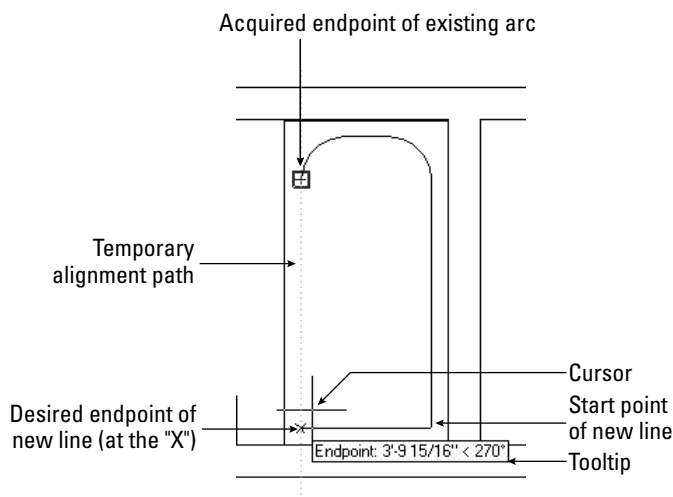

**Figure 4-28:** With the endpoint object snap active and ORTHO on, AutoCAD displays temporary alignment paths based on the acquired point.
3. Move the cursor away from the object snap toward your desired point. You see the temporary alignment paths as you move the cursor over available drawing paths, as shown in Figure 4-28. If ORTHO is on, you see only horizontal and vertical paths. If POLAR is on, you see polar paths based on the polar angle settings, as explained earlier in this chapter.